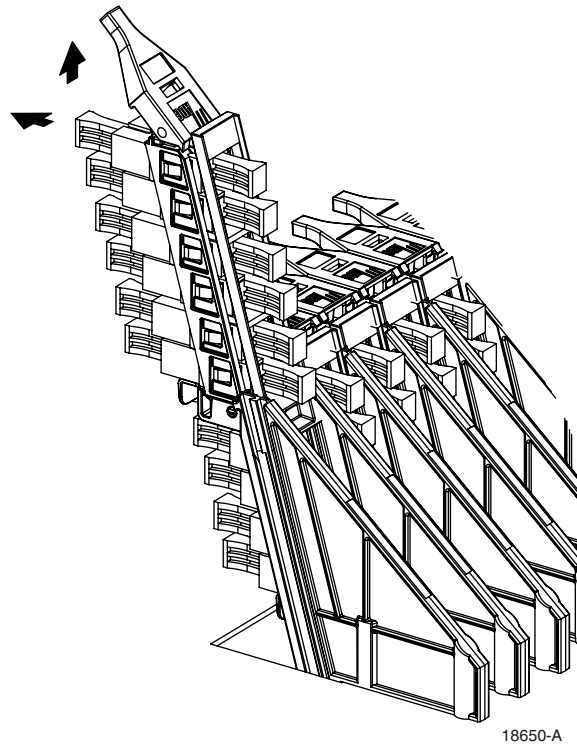

Figure 25. Removing Dust Cap From Standoff Style Adapter Pack
7. To connect an individual cable connector to an adapter, lift up the release tab on top of the adapter pack and slide up the adapter pack (see Figure 25 on page 28). Pull the dust cap straight out from the adapter and connect the cable connector to the adapter.
8. To connect an individual cable connector to an adapter, lift up the release tab on top of the adapter pack and slide up the adapter pack (see Figure 25 on page 28). Pull the dust cap straight out from the adapter and connect the cable connector to the adapter.
To access a sliding adapter pack (Figure 25):